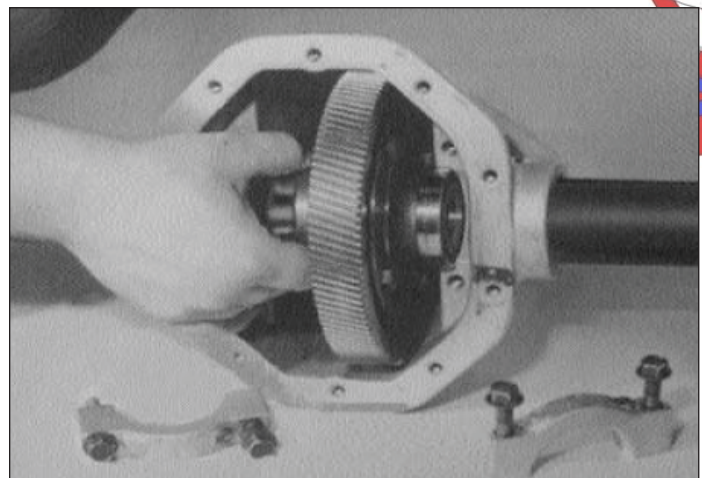

Figure 6-40. Removing Differential Assembly
5. Remove four bolts (6) and nuts (7) from the final drive output gear (5). Remove gear from differential case (Figure 6-40). Use care not to damage gear teeth.